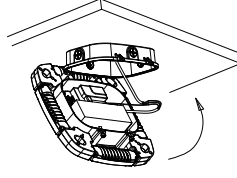

Figure 2-7
7. Close the lamp body. Figure 2-7